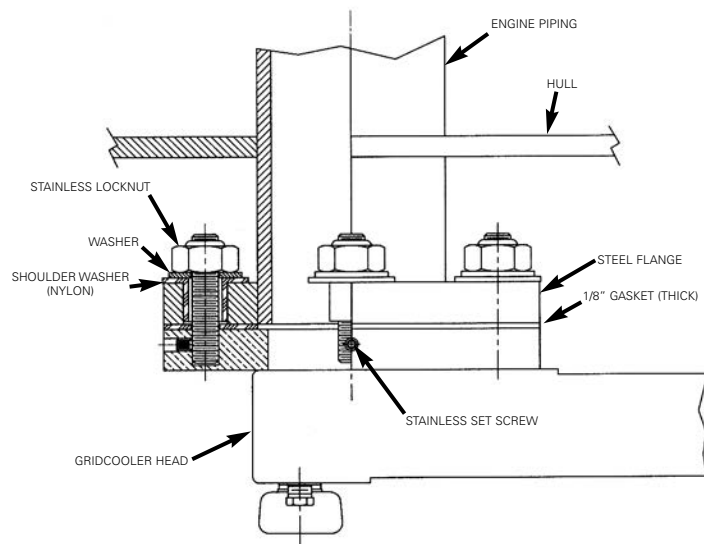

FIG. 20 *Z OPTION mounting detail*
- 3.2.2 The unit is also supplied with mating ASTM steel flanges and flange mounting hardware. The supplied hardware illustrated in Figure 20 includes nylon shoulder washers combined with neoprene gaskets to allow isolation from the vessel's hull. Special extra heavy lock nuts and washers are provided for a secure installation.